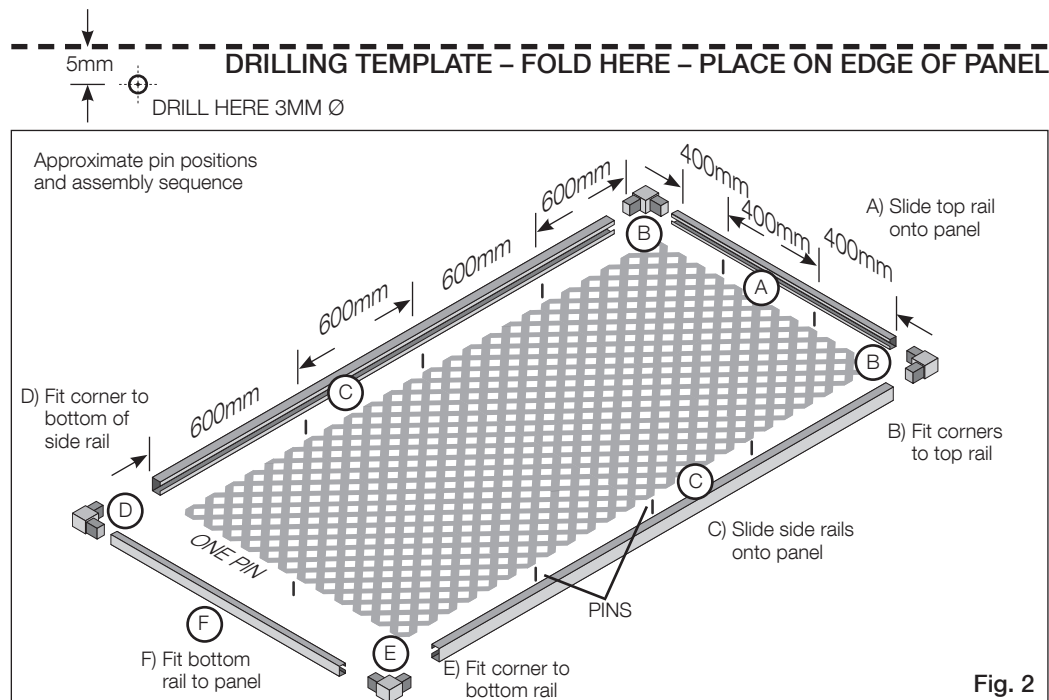

Fig. 2
- We recommend using at least three pins (evenly spaced - 600mm apart) on each long side and two pins (spaced 400mm apart) on the top short side. Only place one pin in the centre on the bottom edge (Fig. 2).